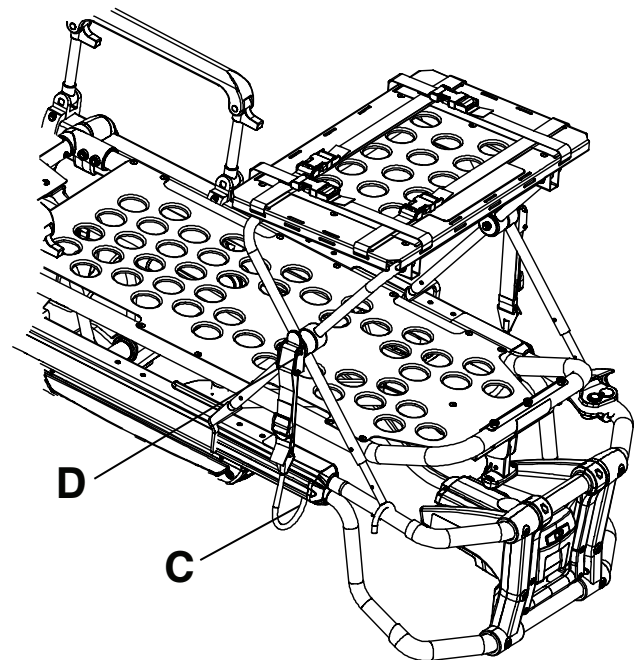

**Figure 17 – Open defibrillator platform legs**
2. Open and expand the defibrillator platform legs (Figure 17).